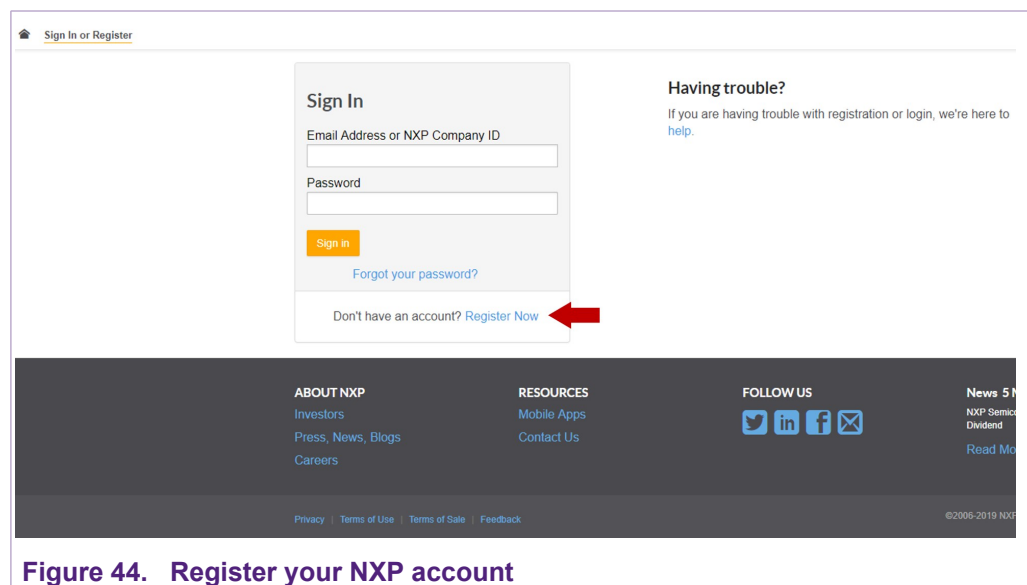

Figure 44. Register your NXP account
2. You will be asked to sign-in with your account at the NXP website. If you do not have an account, click on **Register Now** as shown in Figure 44: